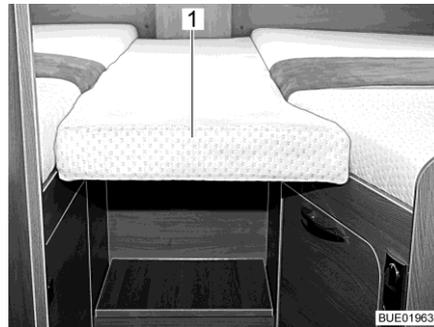
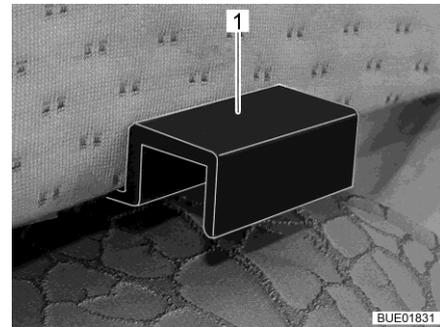

Fig. 184 Additional cushion
Fig. 185 Additional cushion holder
- Hook the additional cushion (Fig. 184,1) with the holders (Fig. 185,1) into the panels of the single beds so that a closed lying surface is created.